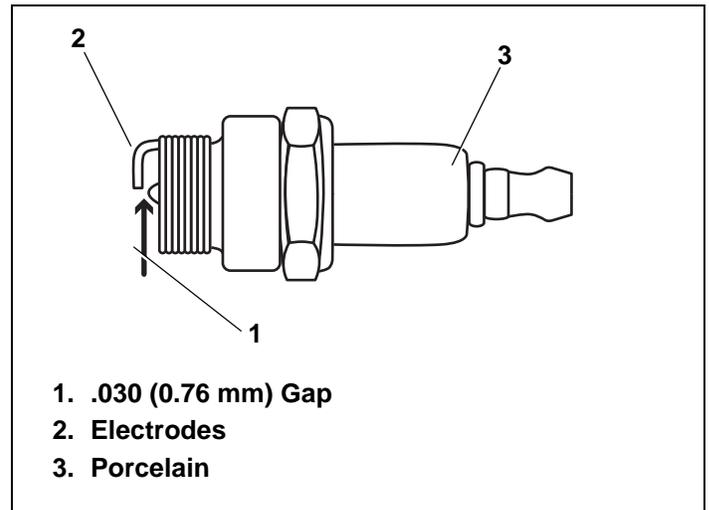

Figure 21. Resistor Spark Plug
4. Check electrode gap with wire feeler gauge and set gap to—.030 (0.76 mm) if necessary. See Figure 21.